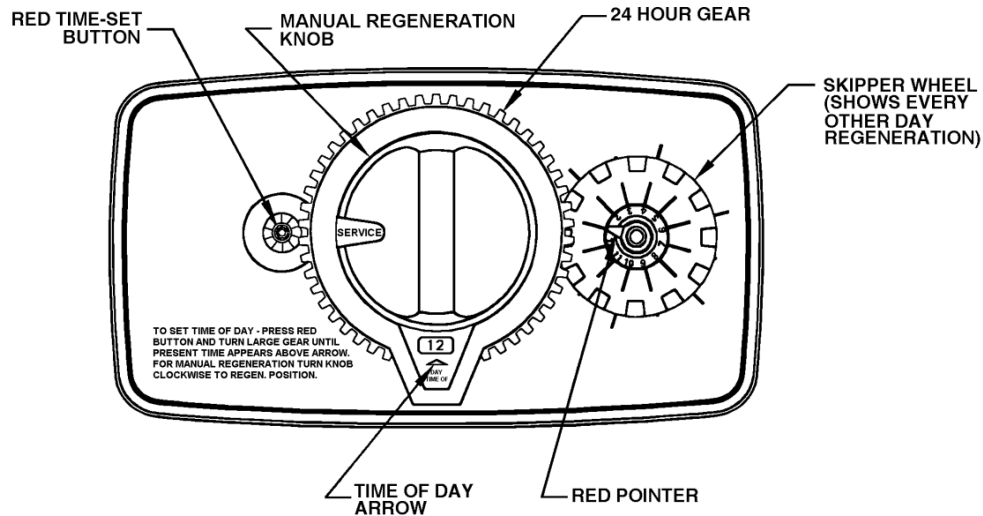
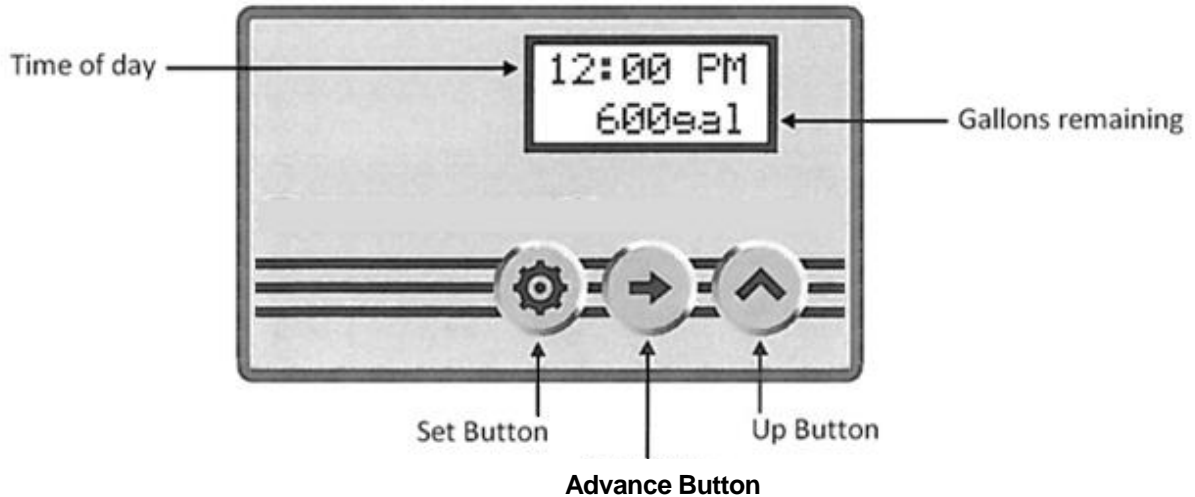

FIGURE 5: Front of Time Clock Timer Assembly
FIGURE 6: Front of Electronic Meter Timer Assembly
STEP 10: For NST Series rotate the Manual Regeneration knob (see Fig. 5, page) clockwise to the “Backwash” position.
For the NEST Series plug transformer into an un-switched electrical outlet and attach the power cord into the control valve. Then press and hold down the center “ADVANCE” button for 5 seconds and release after “GO TO BW” appears on the screen (see Fig. 6, page 9). Wait until the valve reaches the backwash position before going to STEP 11.
STEP 19: Set the current time of day on the timer (note AM and PM) (refer to Fig. 5 or Fig. 6, depending on the model number).
STEP 20: Set the regeneration frequency (refer to Fig. 5 or Fig. 6, depending on the model number). The NEST Series units determine frequency based on gallons used.